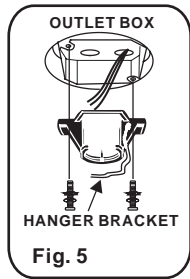

Fig. 5
Step 1. Secure the hanger bracket to the ceiling outlet box using screws included with your outlet box, lock washers included with the fan. (Fig.5)